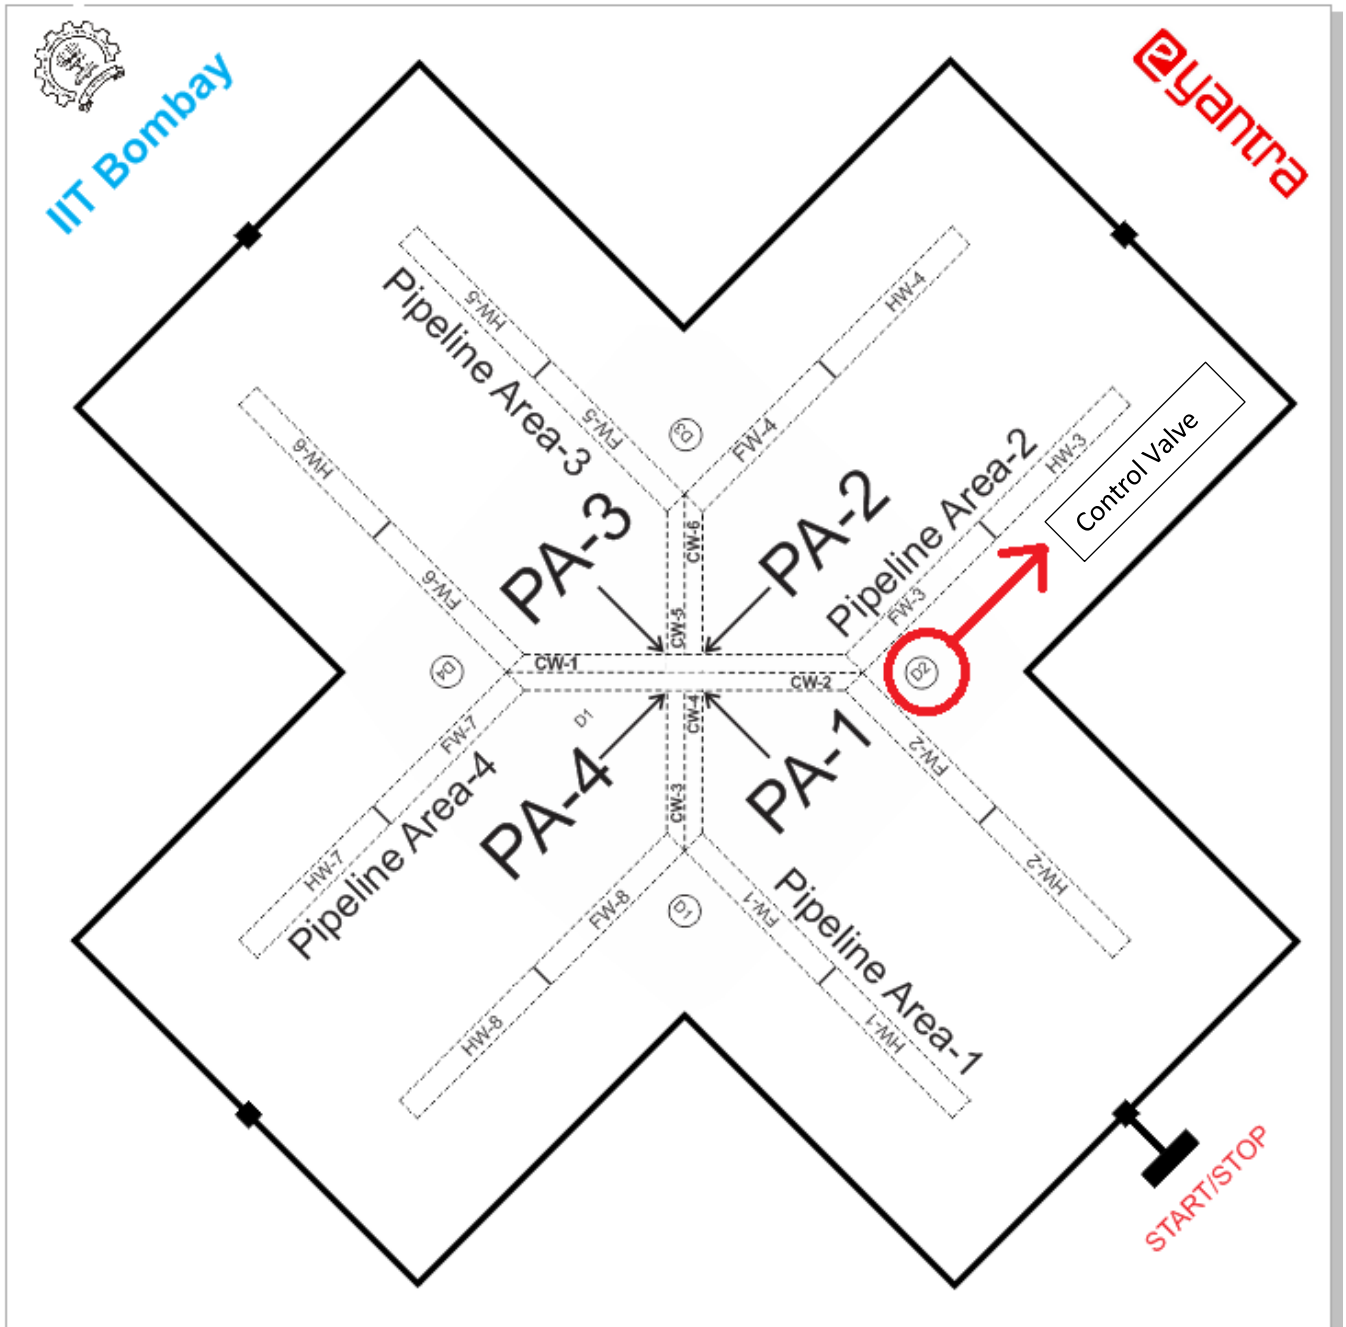

Figure 1: Flex Design
1. The robot starts from **START/STOP** position of the arena that represents a factory. (Refer to Figure 1).
2. It has to traverse through all the four Pipeline Areas **PA-1, PA-2, PA-3 and PA-4** marked in Figure 1.
- **Control Valve:** A Control Valve is a conical funnel sitting over a **Switching Mechanism** (Refer to Section 3.3) to stop the Gas Leakage which can be placed at D1, D2, D3 or D4 positions as shown in Figure 1. Every Gas Leakage (lit LED Array) has its own Control Valve placed at one of the D1, D2, D3 and D4 positions with a color corresponding to that of the respective Gas Leakage. In case there are any pipeline areas which do not have a Gas Leakage, a corresponding number of black colored dummy Control Valves will be placed in arena.